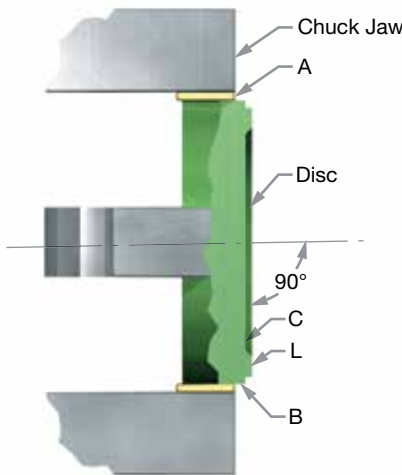

Figure 25: Standard Disc Seating Surface
Machine the standard disc seating surface (see Figure 25) as follows:
1. Grip the disc (6) in a four-jaw independent chuck (or collet, if appropriate), using a piece of soft material such as copper or fiber between the jaws and the disc (see Figure 25).
2. True-up the disc (6) so that the surface marked B and C run true within .001" (0.025 mm) on the total indicator reading (see Figure 25).
- Discard the disc if the minimum dimension N or T (Figures 30a, 30b, 30c and Tables 5a and 5b) is reached. Do not reestablish surface C (see Figure 25).